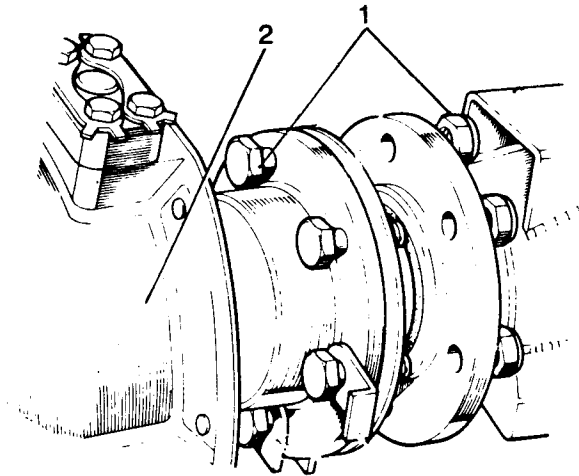

Fig J2.12
- (8) Refer to Fig J2.12. Remove the fixings (1) between the swivel pin housings and the axle case, noting the steering lock stop plate, and on the right hand side only, the jack location stop plate.
- (9) Withdraw the swivel pin housing (2), axle half shaft and front hub assembly complete.